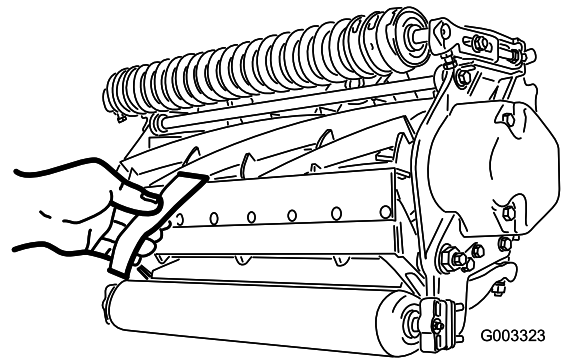

Figure 8
- B. Insert a long strip of cutting performance paper (Toro Part No. 125-5610) between the reel and the bedknife, perpendicular to the bedknife (Figure 8), then **slowly** rotate the reel forward; it should cut the paper; if not, repeat steps A and B until it does.
13. Insert a long strip of cutting performance paper (Toro Part No. 125-5610) between the reel and bedknife, perpendicular to the bedknife (Figure 8), then **slowly** rotate the reel forward; it should cut the paper; if not, turn each bedbar adjusting bolt clockwise 1 click and repeat this step until it cuts the paper.